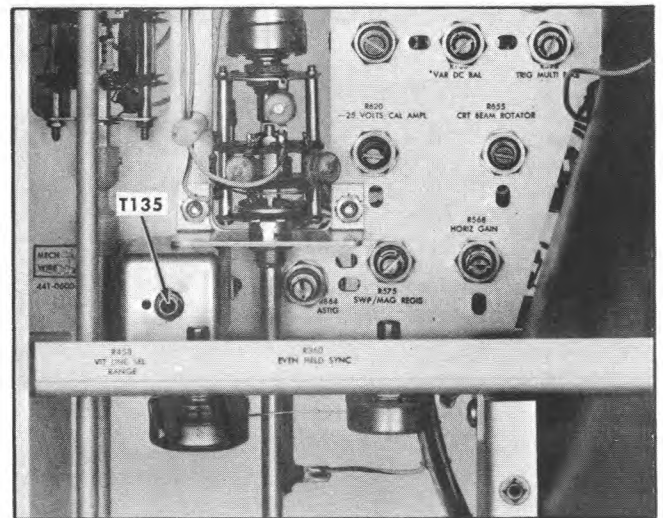

Fig. 6-36. Location of transformer T135.
30. Adjust Vertical-Amplifier Chroma Frequency Response (T135) ❶
g. Adjust the bottom powdered-iron slug in T135 (see Fig. 6-36) to obtain 100 IEEU units of vertical deflection.